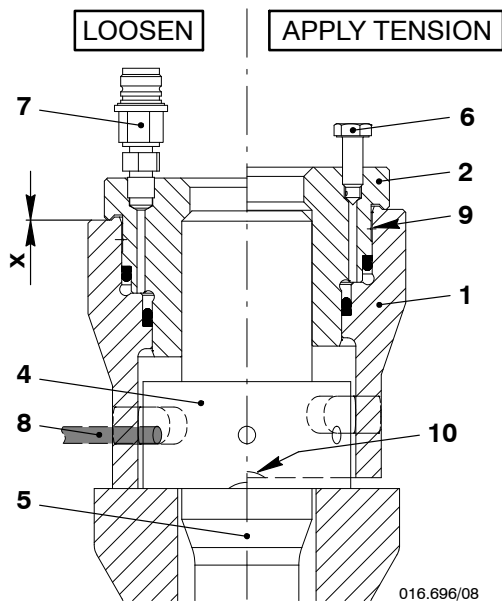
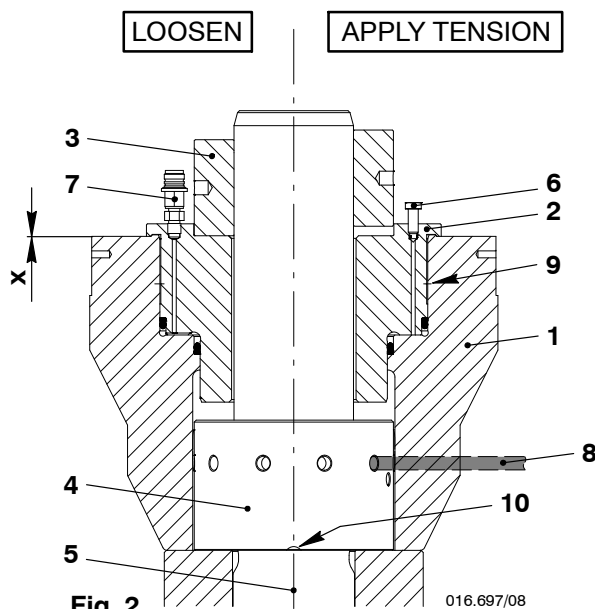

Fig. 1
Fig. 2
- Version 1 – the piston (2) is attached directly on to the elastic bolt / elastic stud (5, Fig. 1).
- Version 2 – the nut (3, Fig. 2) is used to apply tension to the elastic bolt / elastic stud.
- 4) Fully tighten the high pressure (HP) hoses to make sure that the built-in non-return valves can operate.
- 1) Make sure that the vent screw (6, Fig. 1) is open.
- 2) Put the hydraulic jack on to the elastic stud (5).
- 1) Make sure that the vent screw (6, Fig. 2) is open.
- 2) Put the hydraulic jack over the elastic stud (5).
- 3) Use the round bar to lightly tighten the round nut (4).
- 1) Turn the round nut (4) fully down (Fig. 1 and Fig. 2). Make sure that there is no clearance at the slot (10).
- 1) Make sure that the vent screw (6, Fig 1) is open.
- 2) Put the hydraulic jack on the elastic stud (5).
- 1) Put the hydraulic jack over the elastic stud (5, Fig. 2).
- 2) Use the round bar to lightly tighten the round nut (4).
**Note: If necessary, turn back the hydraulic jack a small distance to get access to the hole in the round nut (4).**